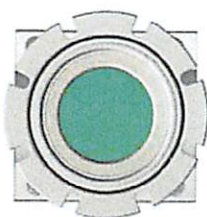

Figure 7
11. Check inside of line stop fitting outlet to ensure gasket is properly seated and not protruding where cutter can damage it. Ensure completion plug set pins are flush with I.D. of the flange (See Figure 7).